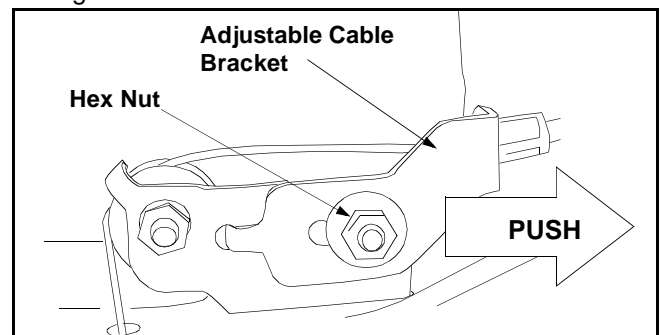

Figure 15
The adjustable cable bracket is located on the left side of the mower beside the engine. See Figure 15.
- Loosen hex nut which secures the adjustable cable bracket. See Figure 15.